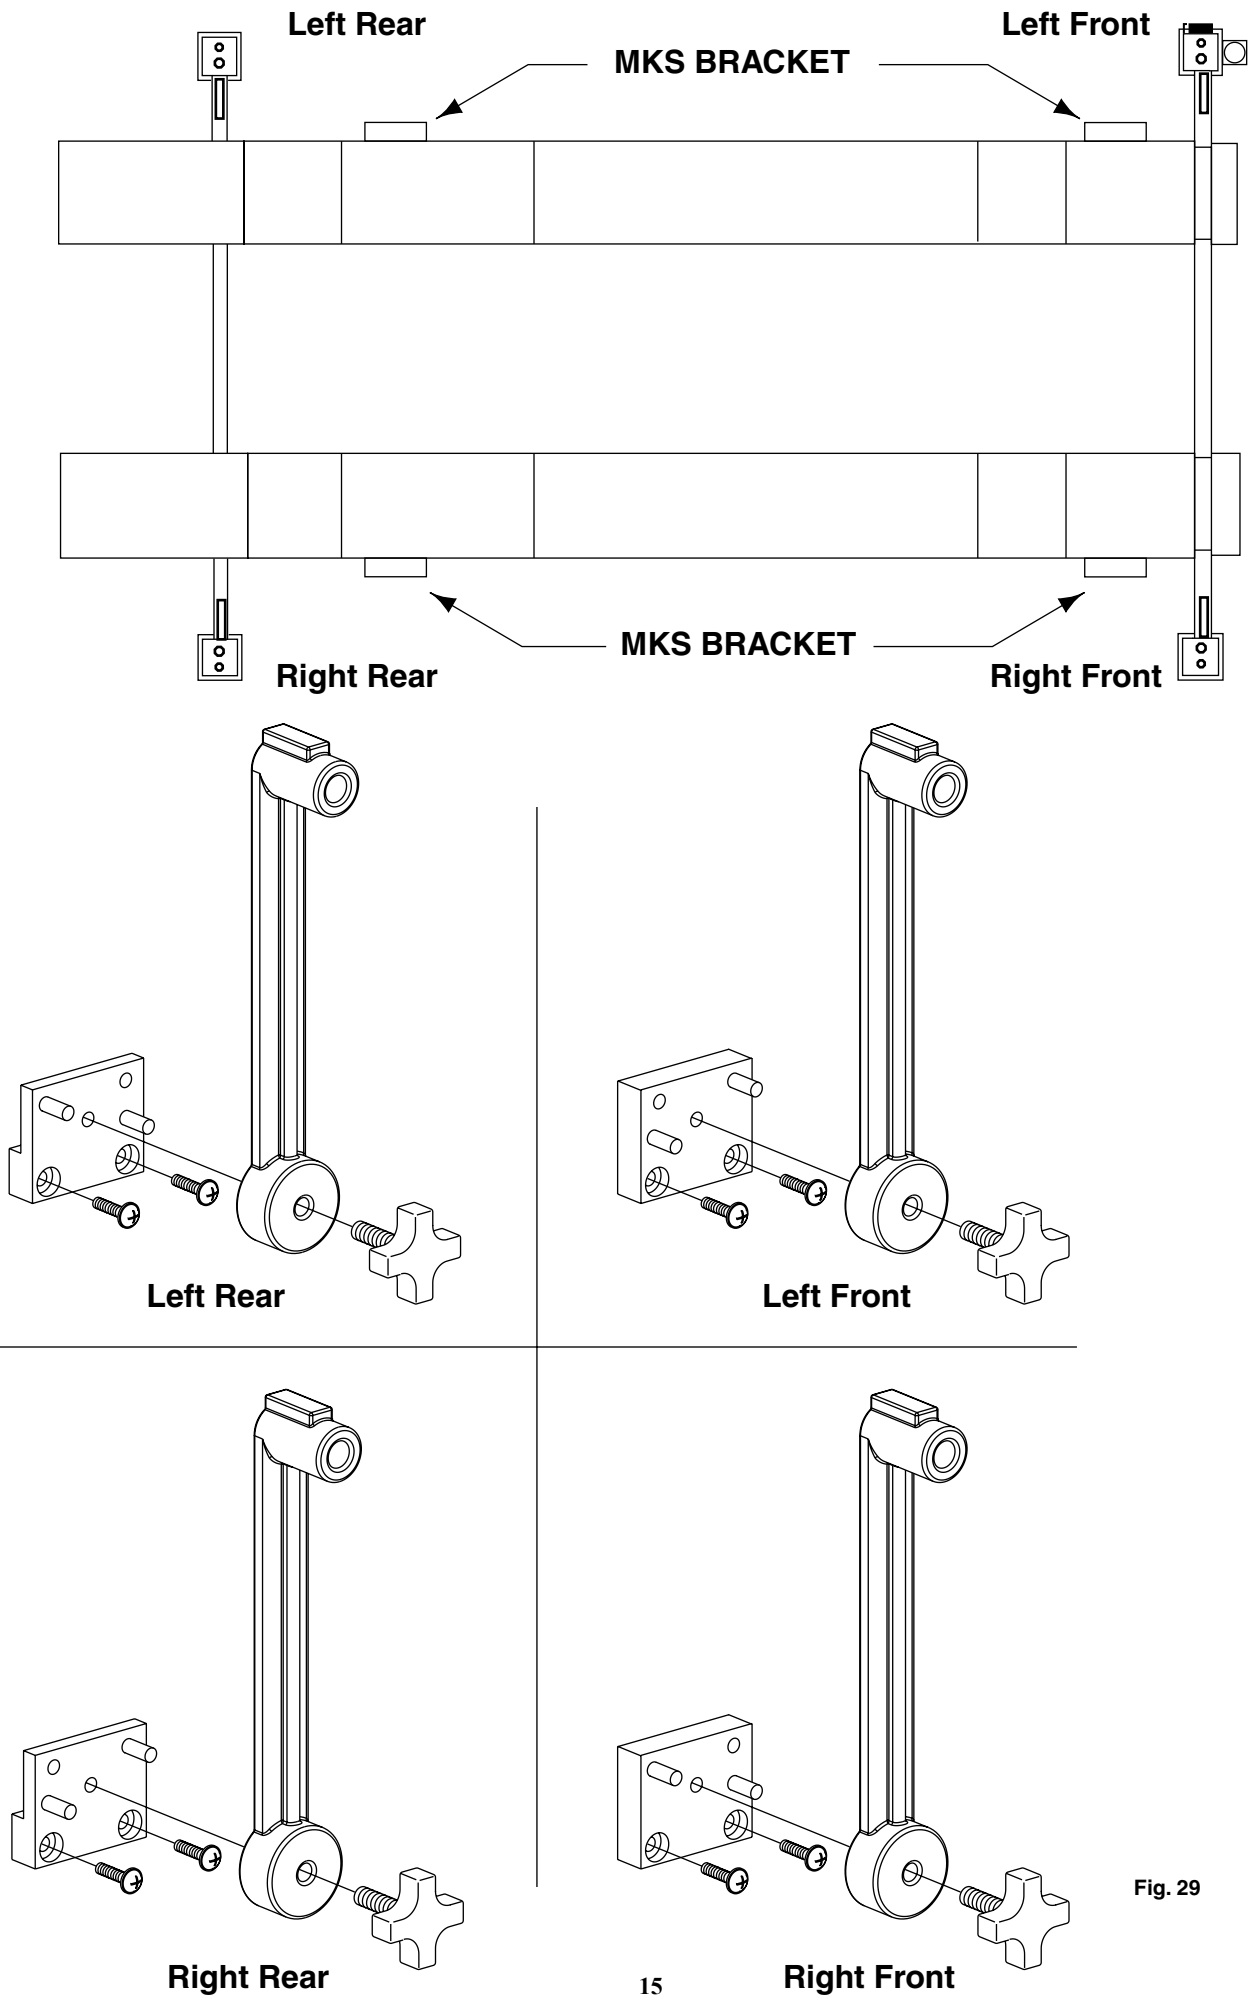

Fig. 29
- A. Attach brackets as shown, Fig. 29. using button head bolts and nuts.